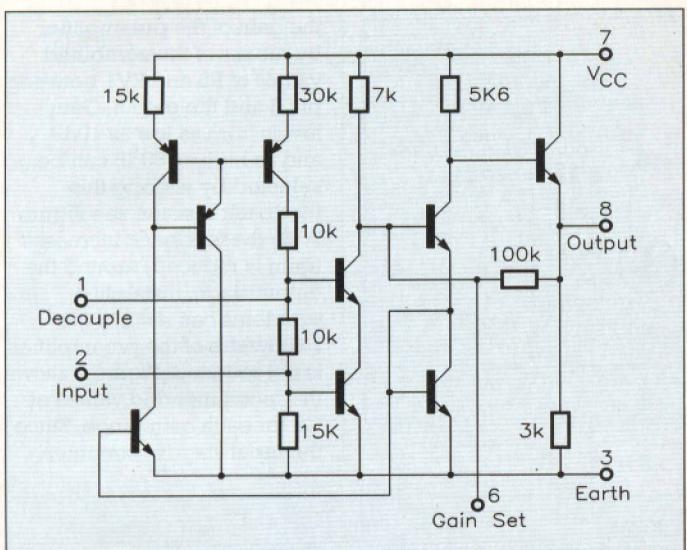
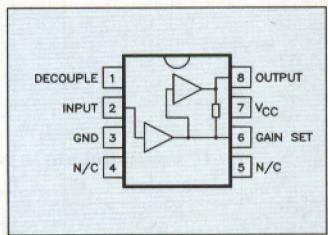

Figure 1. SL561C internal circuit diagram.
Figure 2. SL561C pin connections.
The SL561C is a monolithic Integrated Circuit (IC) which can be used in a number of different low noise preamplifier roles. It contains nine very high performance transistors; and associated biasing components, see Figure 1. All this circuitry is held in an 8-pin DIL (Dual In-Line) package as shown in Figure 2. The absolute maximum ratings and electrical characteristics of the IC are detailed in Table 1. Its high gain, low noise design makes it suitable for use in audio and video systems at frequencies up to 6MHz. Noise performance is optimised for source